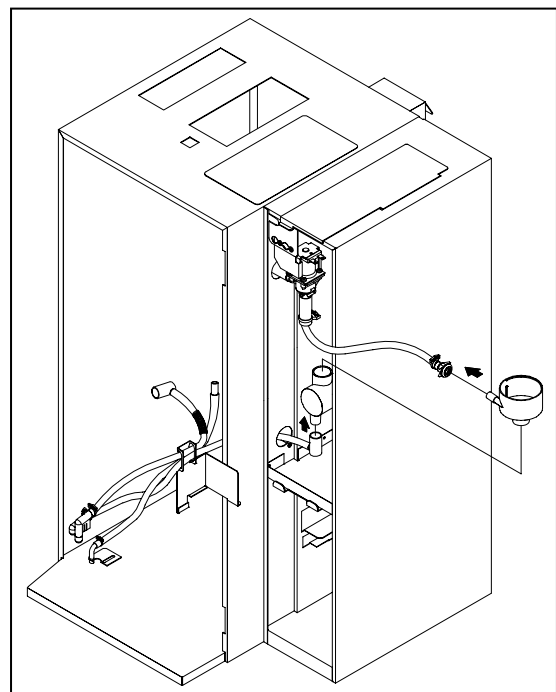

Figure 6 - Connect the hoses inside the A.P.P. (door is removed from illustration to simplify parts identification).
7. Connect the new powder product hoses to the whipper assembly inside the A.P.P. (figure 6).